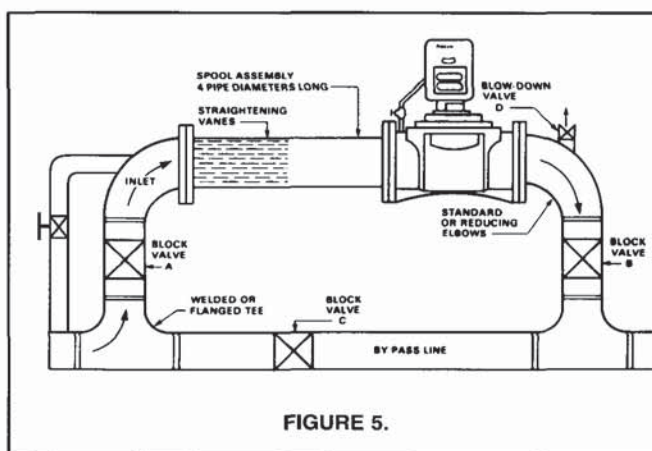

FIGURE 5.
- B.** An installation of a by-pass line around the meter is recommended for all piping configurations (see figure 5).
Provision for a controlled pressure blow-down of the meter run should be made. The blow-down should be located between the meter outlet flange and the downstream block valve (see figure 5). While Turbo-Meters can be operated up to 120 percent of maximum rated capacity for short periods of time with no damaging effects, over-sized blow-downs can cause speeds greatly in excess of this amount.
Start-Up (Refer to Figure 5)
On high-pressure installations, a valved bypass around the inlet riser block valve ("A" in Figure 5) is recommended. Usually constructed of 3/4 pipe, with a needle-type valve, the bypass permits pressurizing of the meter run without damaging the meter.
Shut Down (Refer to Figure 5)